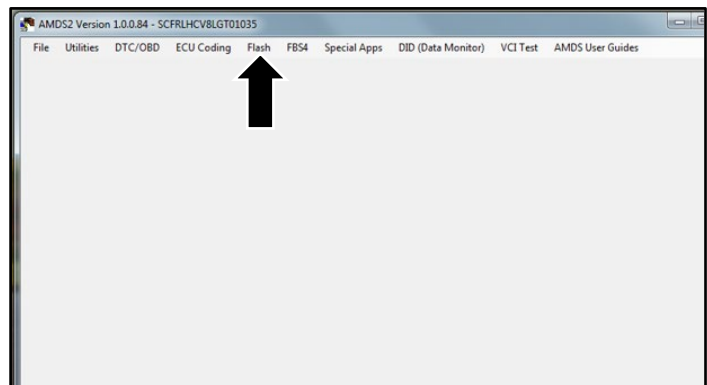

Figure 2
5. Select "Flash" (refer to Figure 2).